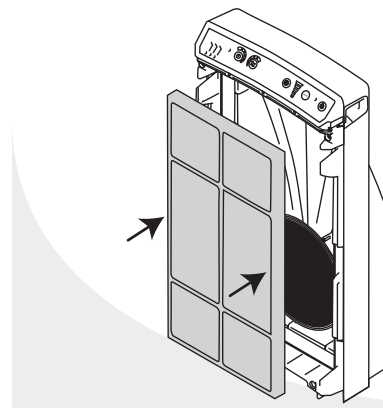

FIG. 7
2. Carefully **replace** the filter all the way back inside the Air Purifier (Fig. 7).